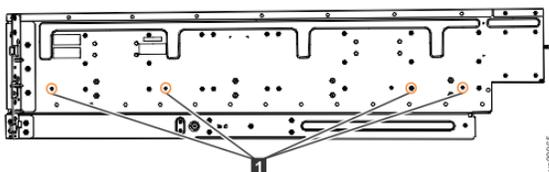

Figure 50. Screw locations to attach the inner rail to the enclosure
4. Use four M4 screws to attach the inner rail to the side of the enclosure. Figure 50 on page 91 shows the screw locations.